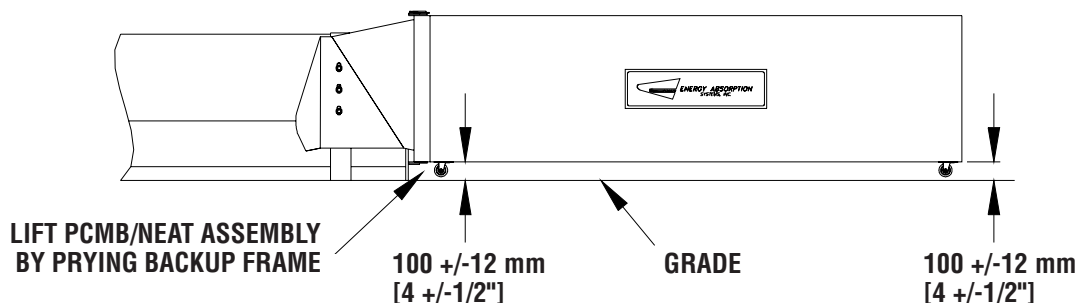

Figure 8
Step 8: Checking Installation Height (see Figure 8)